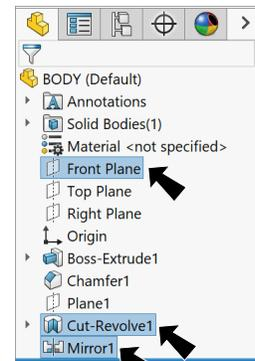

Fig. 28
Step 1. **Ctrl click Front Plane**, **Cut-Revolve1** and **Mirror1** in the Feature Manager to select plane and features, **Fig. 28**.